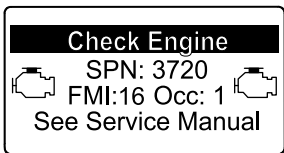

Figure 44
- Engine warning SPN 3720, FMI 16 (Figure 44)